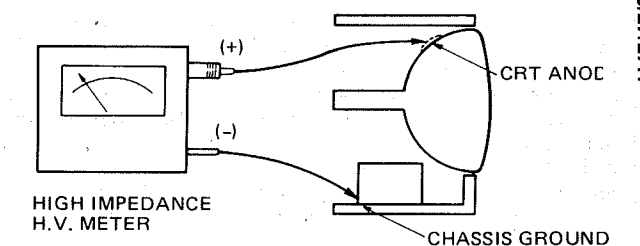

Fig. 1 Connection of H.V. Meter
2. Connect a high voltage voltmeter between the CPT anode and the chassis ground (K3) as shown in Fig. 1.